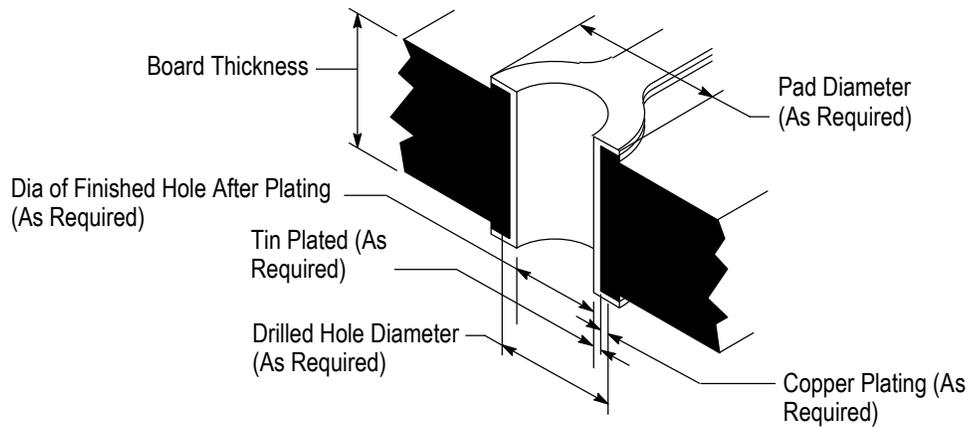

Figure 10
- b. PC Board Solder Tine Holes in the pc board for the solder tines must be drilled and plated through to specific dimensions. See Figure 10. The drilled hole size, plating types, and plating thickness will depend on application requirements.